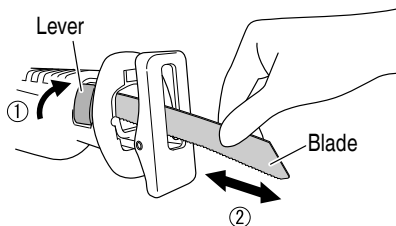

Fig. 11
- (3) When you release the lever, the spring force will return the lever to the correct position automatically.
- (4) Pull the back of the saw blade two or three times by hand and check that the blade is securely mounted. (Fig. 11)